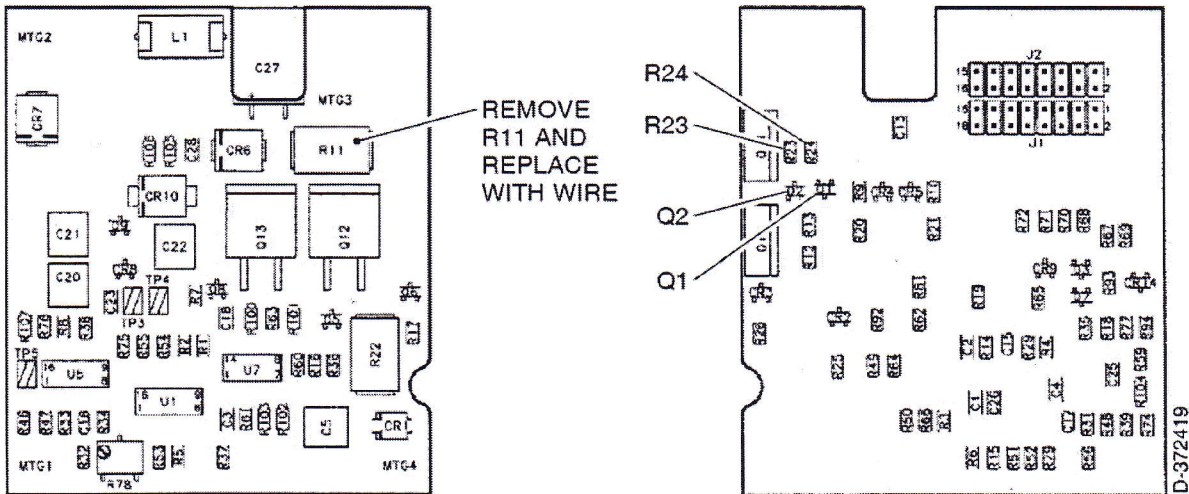

Figure 2. (Sheet 1 of 1) Servo Circuit Board Component Locations
- (1) Remove the motor limit sense components, Q1, Q2, R23, R24, and R11 from the roll servo circuit board. Refer to Figure 2 for the locations of the parts.